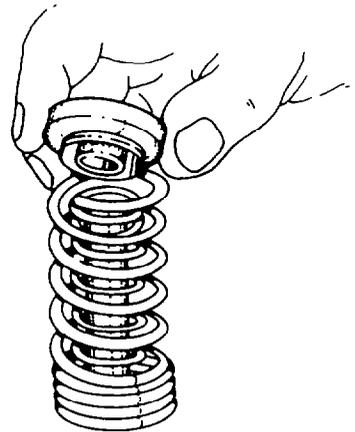

Fig. 48 — Installing Valve Rotators
- b. Before installing the valve rotators, visually inspect for looseness, broken pieces and cracks in the tapered hole. If no defects are noted turn the rotator by hand. The upper and lower sections should rotate smoothly without binding. Replace defective units. After checking, install with the small end down (see fig. 48).